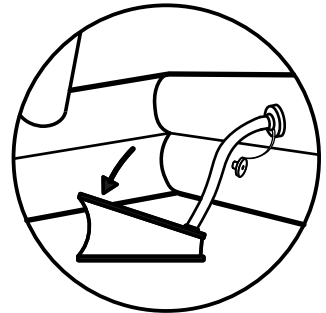

Fig 19 - Reinflate the tube
7. Reinflate the tube using the pump included (Fig 19). A permanent repair should be installed as soon as possible.